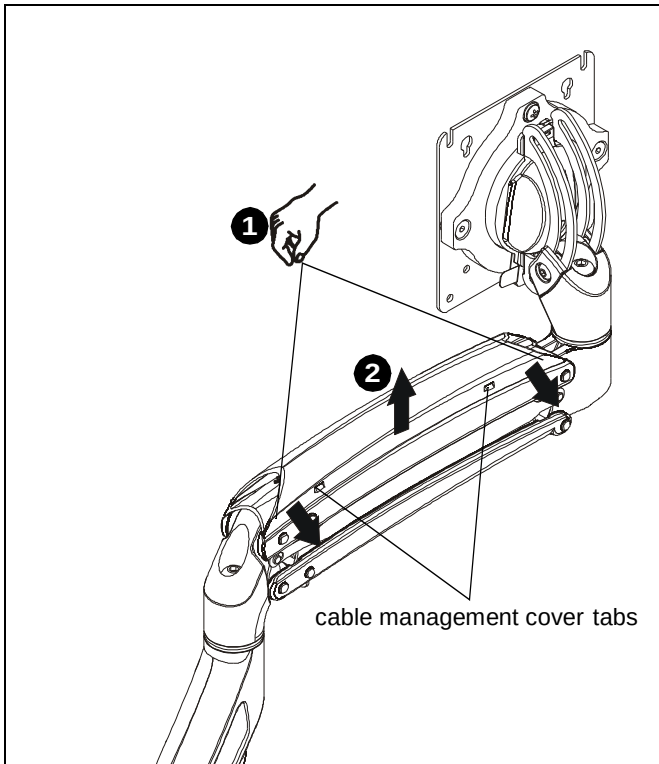
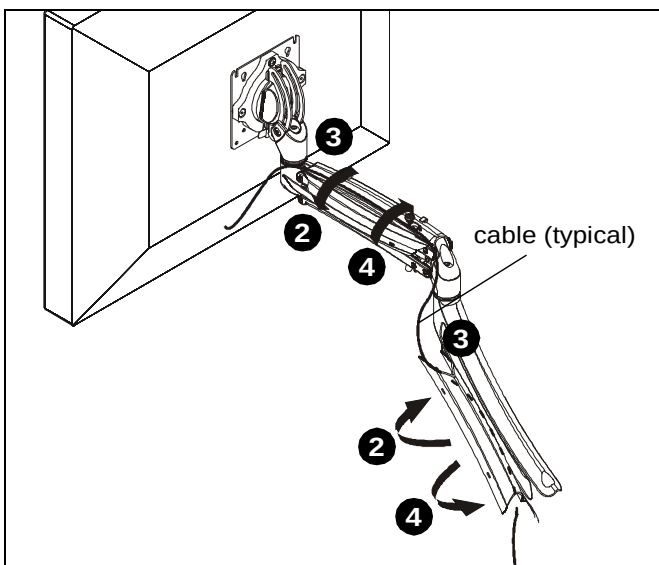

Figure 21
Figure 22
1. Press insides of cable management covers at both ends to unhinge tabs on either end of cable management cover on upper arm. (See Figure 21)
2. Lift cable management cover up until tabs are unhinged and cover is in the "open" position. (See Figure 21) and (See Figure 22)
4. Close cable management covers on monitor arm. (See Figure 22)
3. Route cables through cable management channels. (See Figure 22)